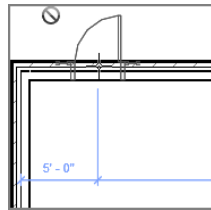

FIGURE 1.53: Inserting a hosted family (.rfa)
9. Zoom in on the upper-left corner of the building, as shown in Figure 1.53.
10. To insert the door into the model, you must place it in the wall. (Notice that before you hover your cursor over the actual wall, Revit won't allow you to add the door to the model, as shown in Figure 1.53.) When your pointer is directly on top of the wall, you see the outline of the door. Pick a point in the wall, and the door is inserted. (We'll cover this in depth in the next chapter.)